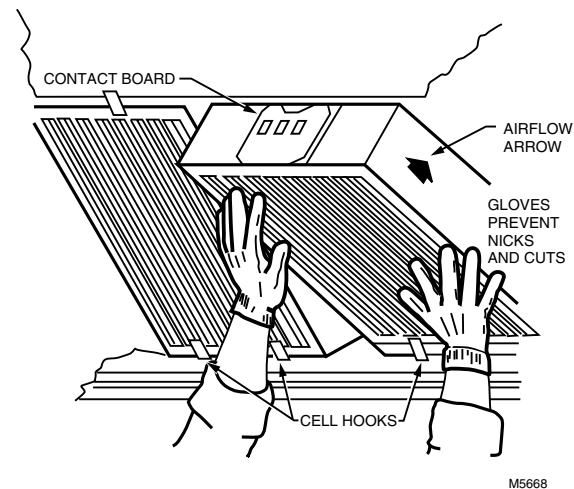

Fig. 14. Reinstalling the cell.
- ☐ With one hand supporting the cell near the latch, rotate the latch to a closed position. See Fig. 14.